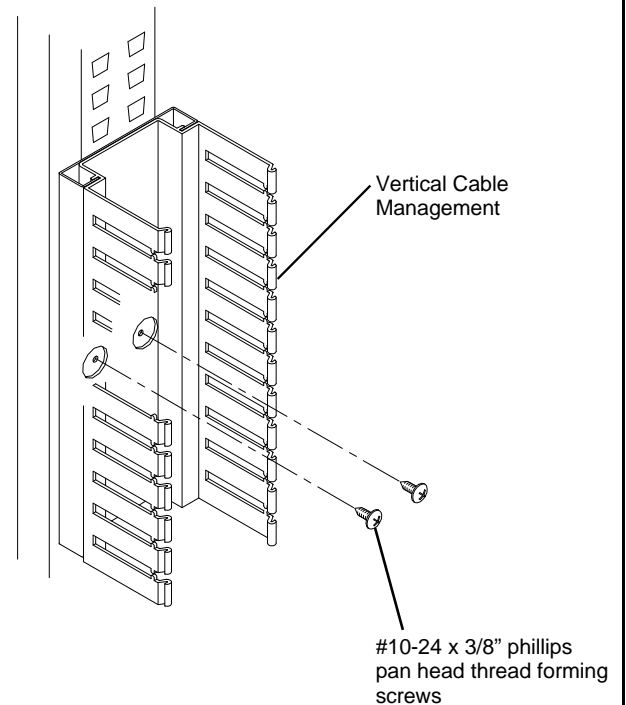

Figure 3
3. Lock the Vertical C/M in place by installing two #10-24 x 3/8" phillips pan head thread forming screws (provided). See **figure 3**.